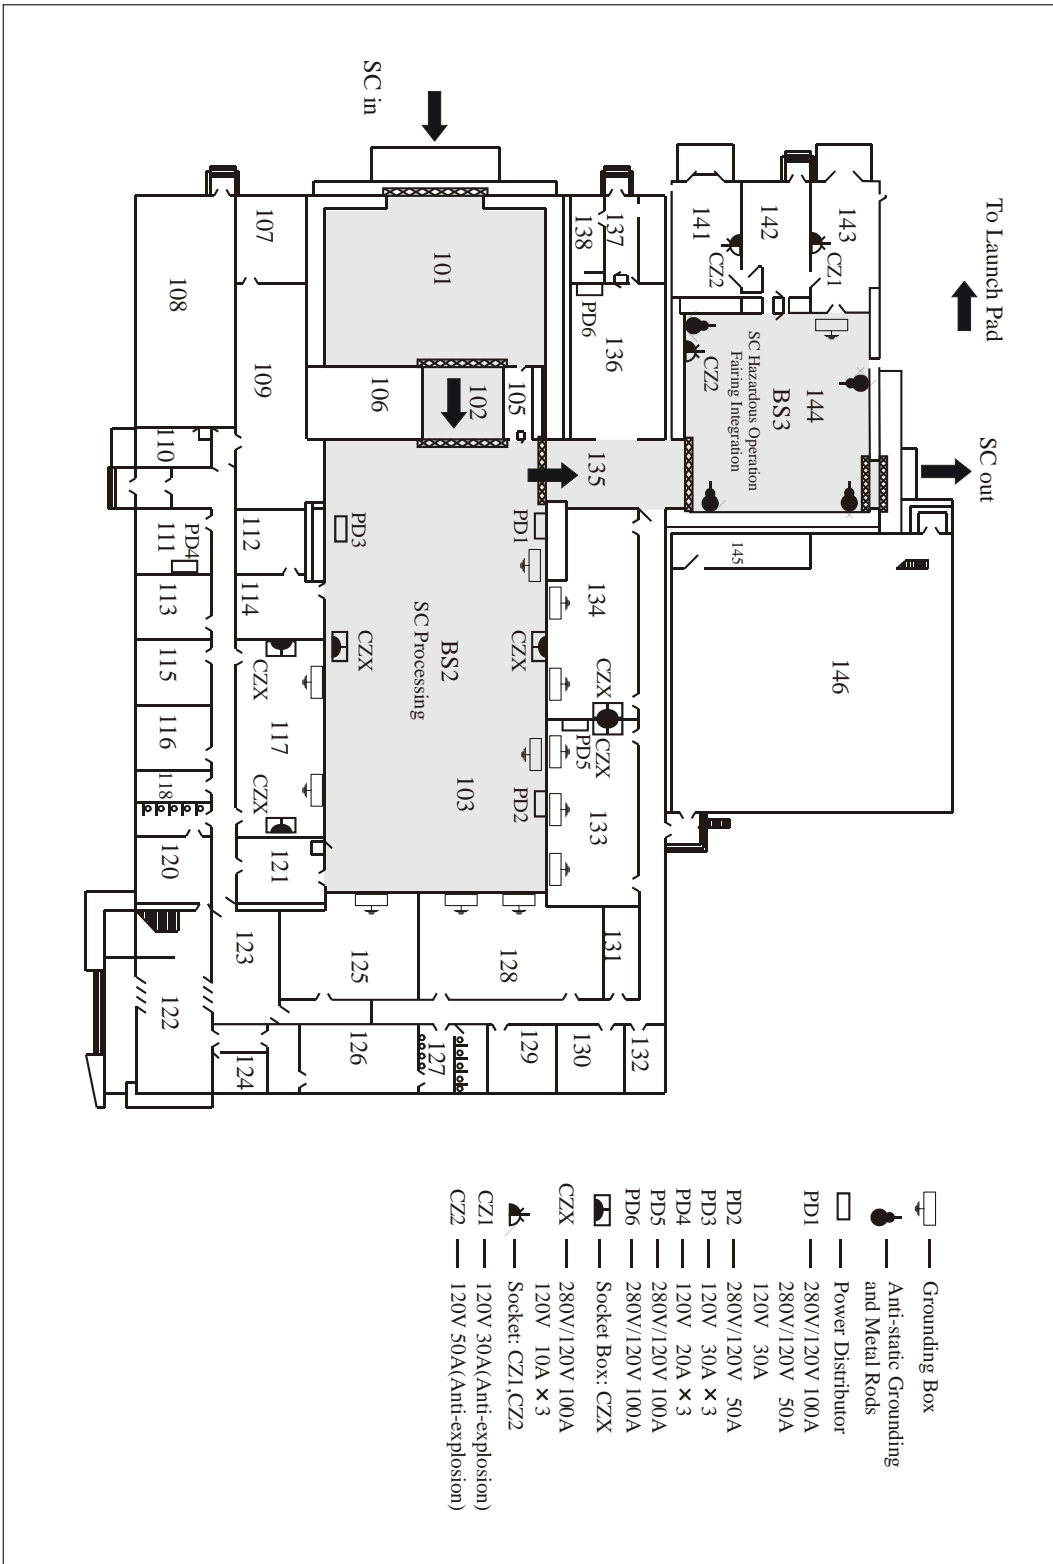

Figure 7-3 Layout of First Floor of BS Building
7.2.2 SC Processing Buildings (BS)
The SC Processing Buildings includes Test and Fueling Building (BS2 and BS3), Solid Rocket Motor (SRM) Testing and Processing Buildings (BM), X-ray Building (BMX), Propellant Storage Rooms (BM1 and BM2). BS2 is non-hazardous operation building, and BS3 is hazardous operation building (BS3). All of the SC's pre-transportation testing, assembly, fuelling and SC/Adapter operations will be performed in BS2 and BS3. Refer to **Figure 7-3**, **Table 7-1** and **Table 7-2**.
Refer to **Figure 7-3** and **Table 7-1**.
Refer to **Figure 7-3** and **Table 7-2**.